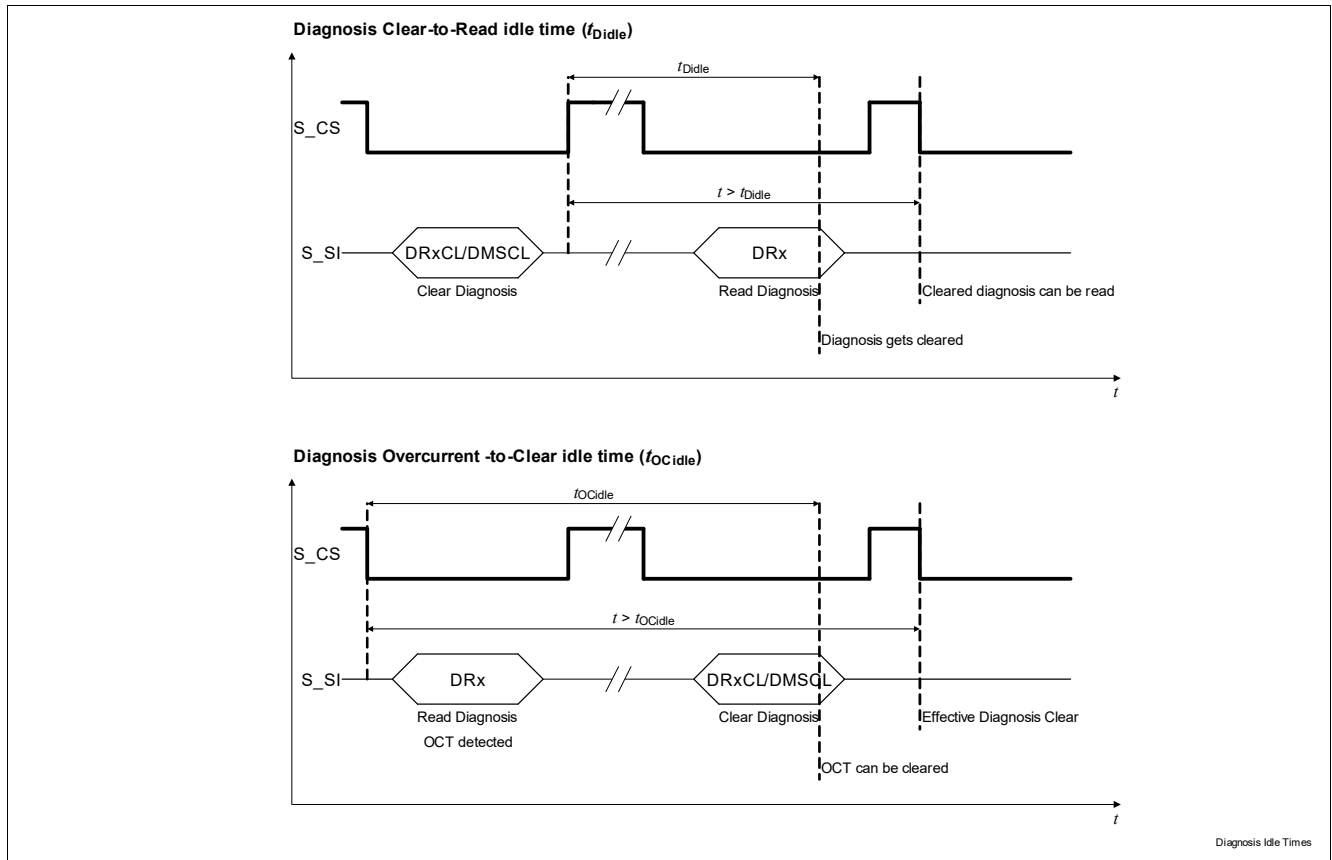

Figure 39 Diagnosis idle times
When issuing a Diagnosis Register Clear command (DRxCL or DMSCl), the idle time  $t_{Didle}$  needs to elapse, from the CS low-to-high transition of the clear command, before the register content is effectively cleared (Figure 39); This time has to be taken into account when trying to read the Diagnosis register content after a clear, see Chapter 11.3 for  $t_{Didle}$  definition.
After an overcurrent entry is stored in the diagnosis register (OC), the idle time  $t_{OCidle}$  needs to elapse before a clear command can effectively clear the entry; if trying to clear the Diagnosis register after an OCT entry is read (Figure 39), this time has to be taken into account starting from the CS high-to-low transition of the previous read command, see (Chapter 11.3) for  $t_{OCidle}$  definition.